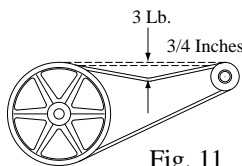

Fig. 11
- **Check belt tension.** A 3 lb. force should deflect the belt 3/4 inches (see Fig. 11). Readjust belt if needed.